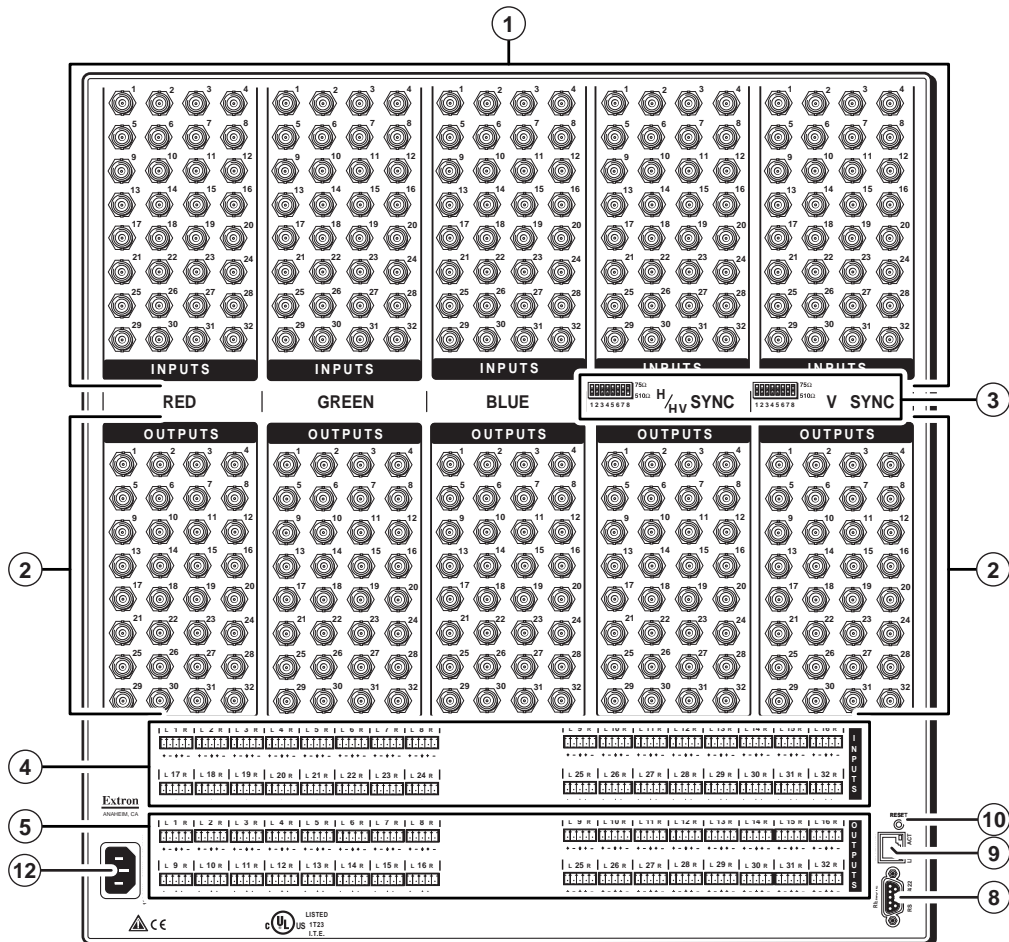
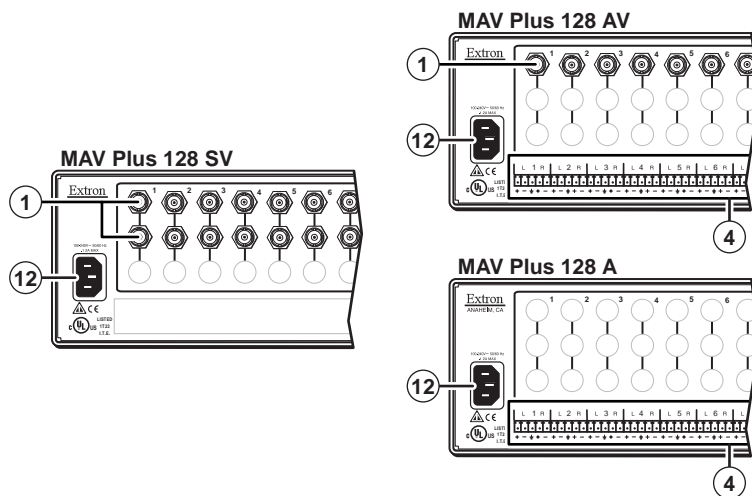

Figure 2-1 — CrossPoint 450 Plus 3232 HVA matrix switcher
Figure 2-10 — MAV Plus 128 matrix switchers with various formats
The following Underwriters Laboratories (UL) requirements pertain to the installation of the matrix switcher into a rack (figure 2-1).
All connectors for all switchers are on the rear panel. Figure 2-1 through figure 2-10 show a representative sampling of all of the matrix switchers described in this manual. See “Connections”, on page 2-8, for connecting cables to the rear panel connectors.
Figure 2-1 shows the CrossPoint 450 Plus 3232 HVA RGB video and stereo audio matrix switcher.
Figure 2-10 shows a portion of the MAV Plus 128 SV S-video matrix switcher without audio, a portion of the MAV Plus 128 AV composite video and stereo audio matrix switcher, and a portion of the MAV Plus 128 A audio-only matrix switcher.